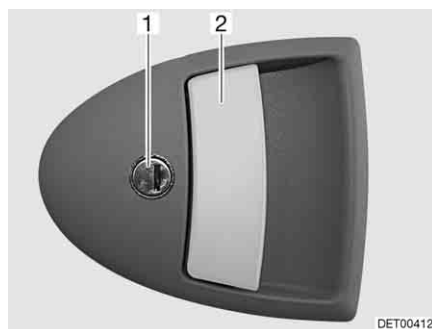

Fig. 37 Door lock of conversion door, outside
Opening: ■ Insert the key into locking cylinder (Fig. 37,1) and turn until the door lock is unlatched.
■ Pull on the handle (Fig. 37,2). The door is open.
Locking: ■ Insert the key into locking cylinder (Fig. 37,1) and turn until the door lock is engaged.